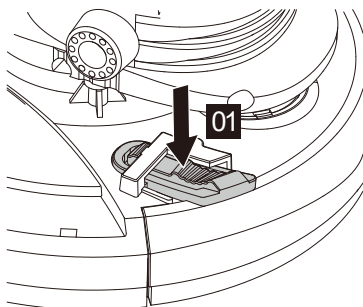

Figure 10-1
4. DETACHABLE GUARD (SEE FIG. 10-1 & 10-2)